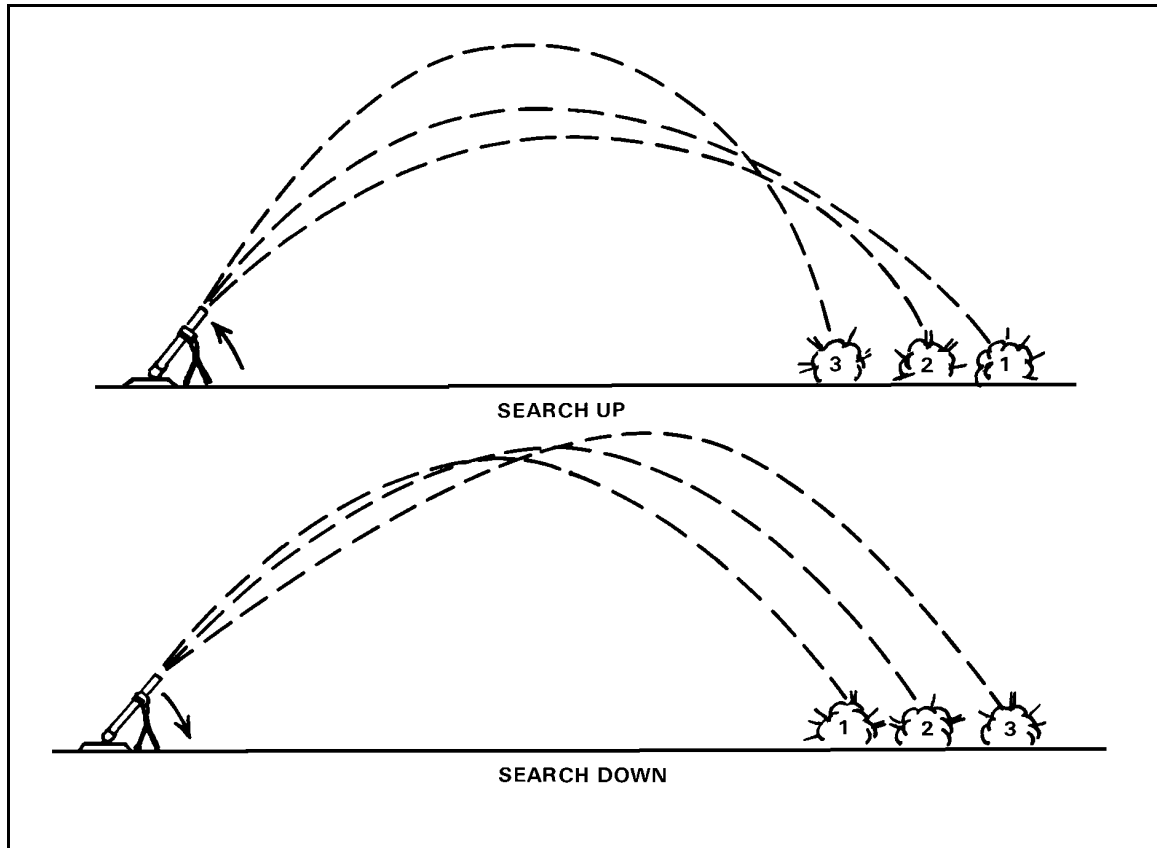

Figure 13-7. Fall of rounds during search mission.
(8) The only difference between a search UP mission and a search DOWN mission is the starting point. Normally, a search mission is fired by searching UP. This allows the FO to better observe the effect of the rounds on target as the rounds walk toward him (Figure 13-7).